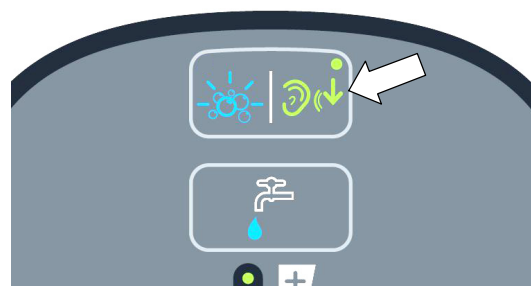

FIG. 37
4. Press the Quiet-Mode button to reduce the vacuum motor sound (Figure 37). A green LED in the corner will turn on when mode is activated. Press button to turn off.